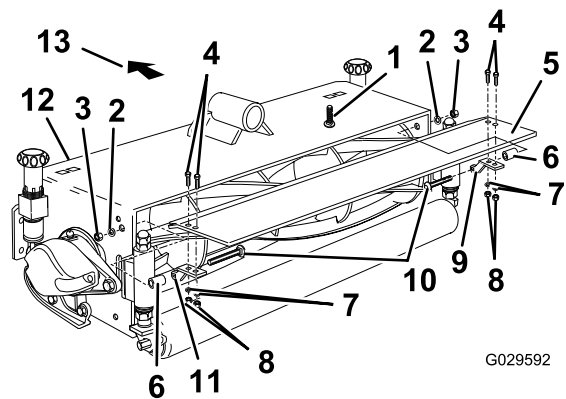

Figure 13
13. Fit the deflectors to cutting units 1, 3, 5, and 7 using the deflector brackets and spacers, and secure them with the fasteners as shown in Figure 13.